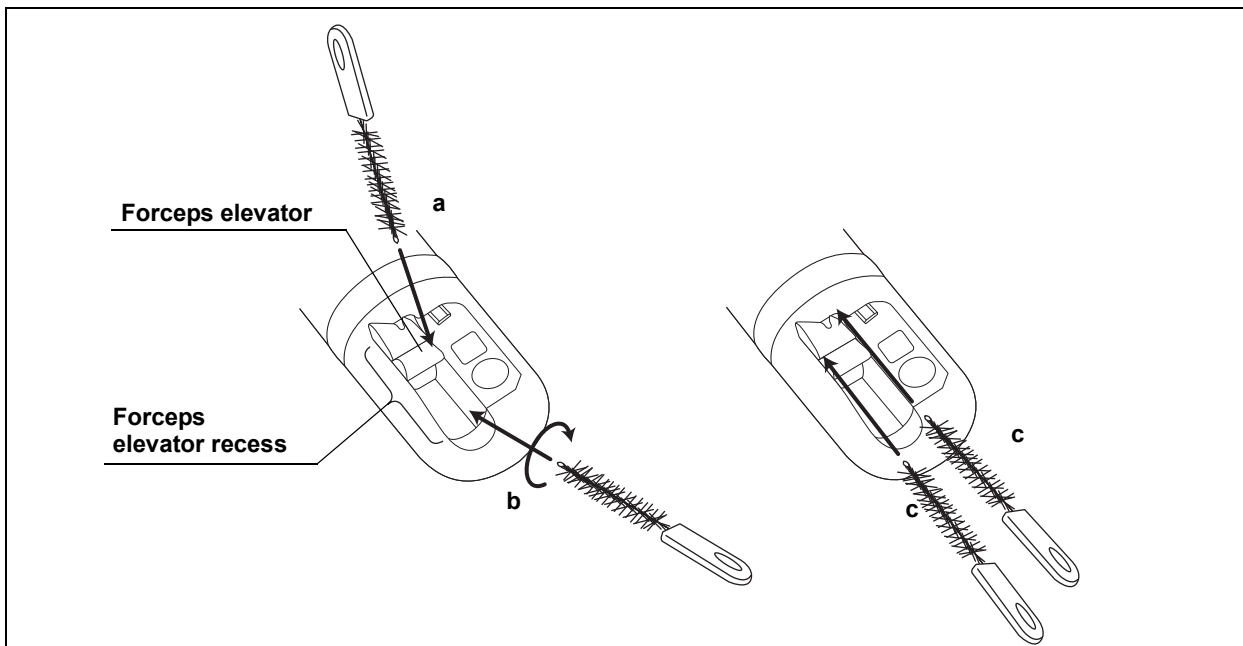

Figure 5.16
- c) Brush both sides of the forceps elevator with three strokes each (see Figure 5.16).